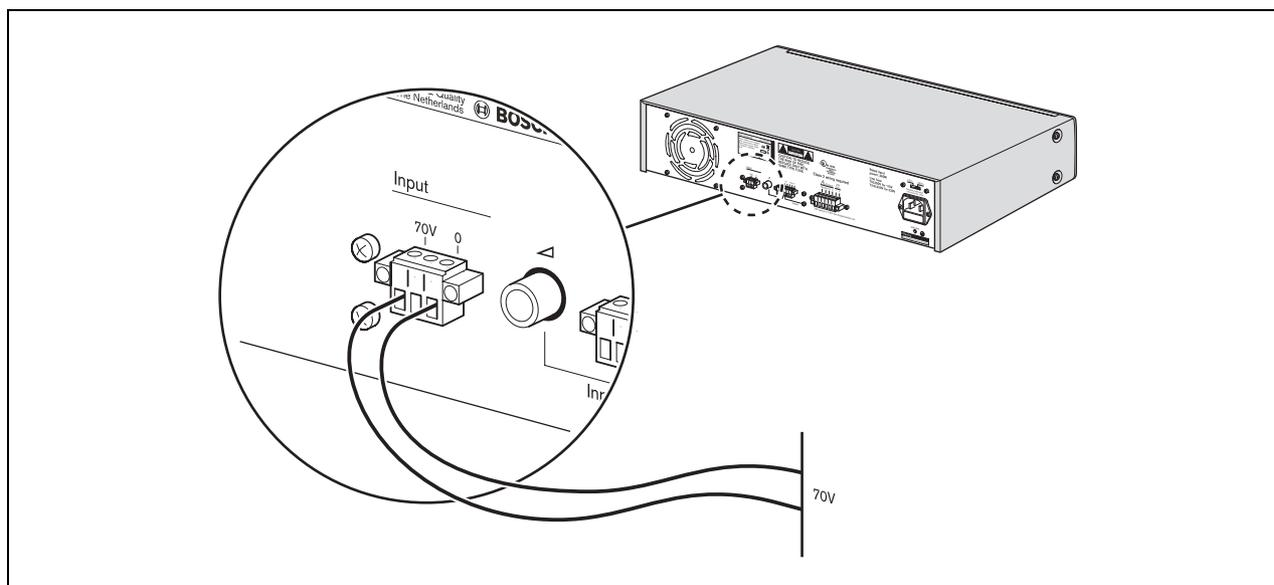

figure 4.2: Connecting a 70 Volt input signal
A 70 V input signal can be connected to the Euro style pluggable screw terminal connector (2) at the rear of the unit as shown in figure 4.2.